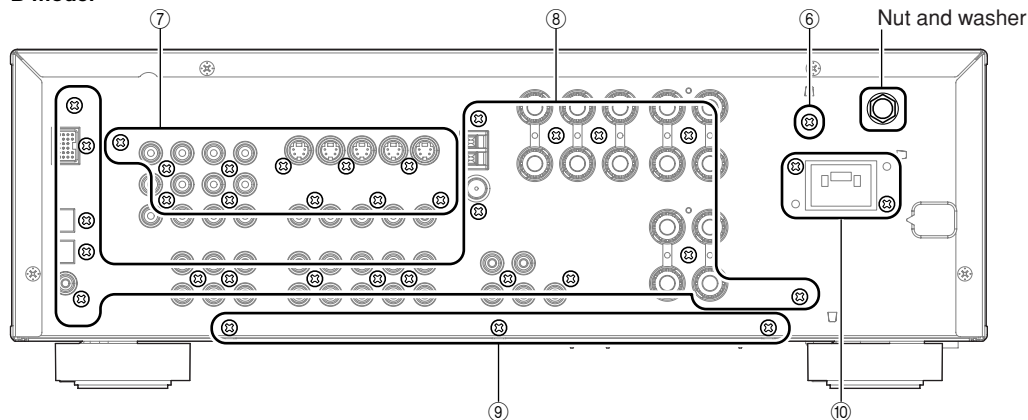

Fig. 3
- b. Remove 5 screws (⑤). (Fig. 3)
- a. Remove screw (⑥). (Fig. 3)
- b. Remove nut and washer. (Fig. 3)
- b. Remove 11 screws (⑦). (Fig. 3)
- a. Remove 18 screws (T, G, E models)/19 screws (B model) (⑧), 3 screws (⑨) and 2 screws (⑩). (Fig. 3)
- b. Remove 3 screws (9). (Fig. 3)